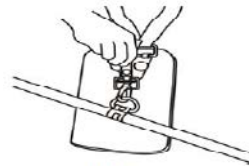

Fig. 6
1. Pull the harness grip upward to separate the hook from the harness so that the harness is separated from the trimmer. Fig. 6